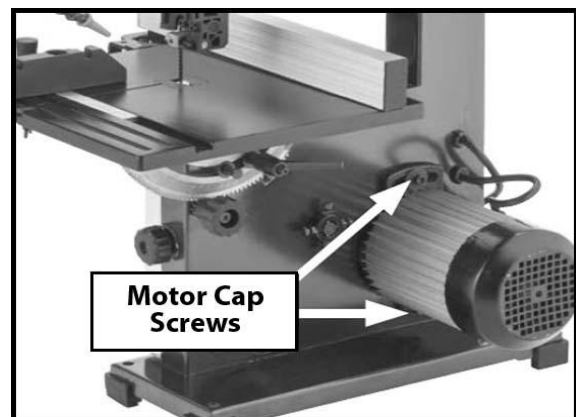

Figure 9
2. Loosen cap screw located on the motor mount as shown in Figure 9 below.